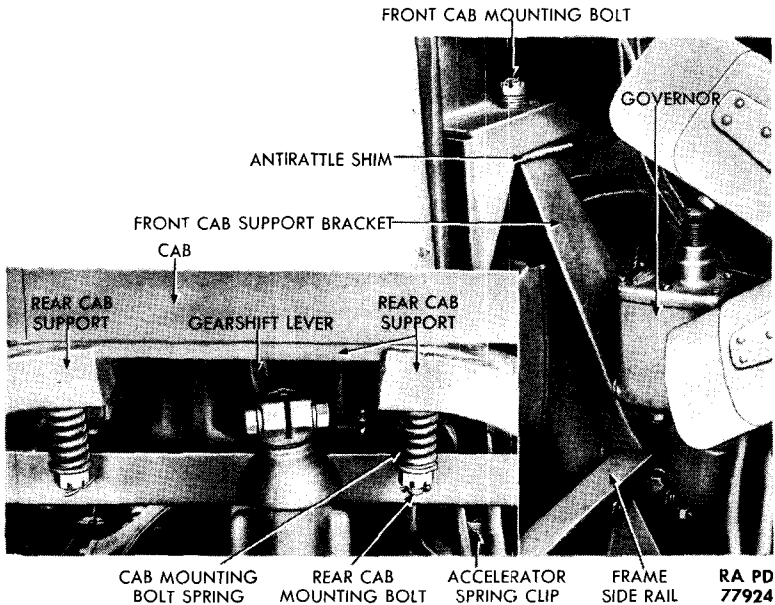

Figure 21 – Cab Attachment Points
- w. **Disengage Cab Front Support Brackets** (fig. 21). Remove the cotter pin, nut, lock washer, flat washer, spring, and bolt on each side which secure cab to support brackets. Procedure is identical on each of the two sides.
- z. **Disengage Rear Cab Support Bracket** (fig. 21). Remove the cotter pin, nut, two flat washers, two springs, and bolt on each side which secure cab to rear support brackets. Procedure is identical on each of the two sides.
q. **Connect Cab to Cab Front Support Brackets** (fig. 21). Install the bolt, flat washer, spring, toothed lock washer, nut, and cotter pin which secures cab on each side to support brackets. Procedure is identical on each of the two sides.
r. **Connect Cab to Cab Rear Support Bracket** (fig. 21). Install the bolt, two springs, two flat washers, nut, and cotter pin on each side which secures cab to rear support bracket. Procedure is identical on each of the two sides.